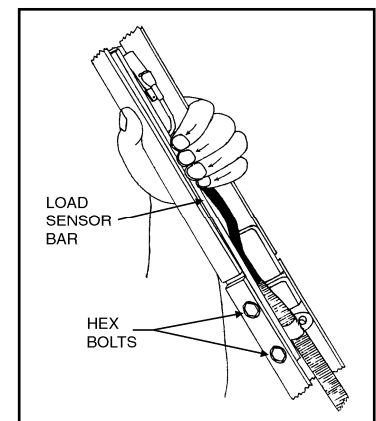

FIGURE 2-24: LOAD SENSOR ADJUSTMENT
- Refer to **Figure 2-24**. Place your left hand around knuckle vertical link assembly as shown; link is located on left side of lift.